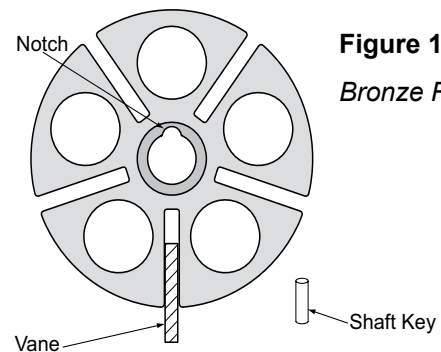

Figure 13
4. Carefully turn the rotor assembly by hand until the shaft key notch is at the 12 o'clock position. (See Figure 13)